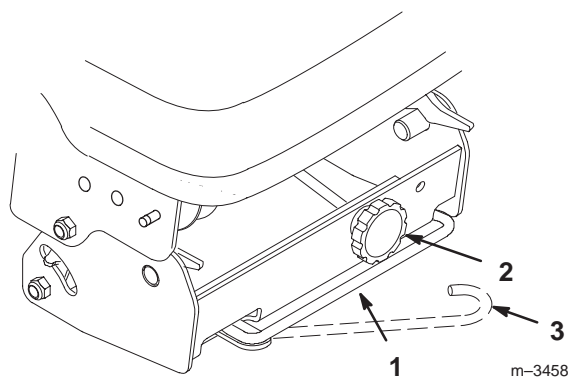

Figure 22
9. Release the belt tension release arm on the pulley box (Fig. 22).